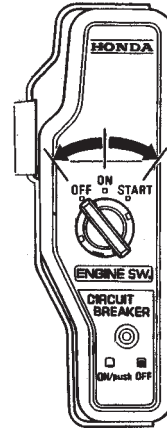

Figure 32. Engine Ignition Switch (OFF Position)
4. Place the **Engine ON/OFF switch** (Figure 32) in the "**OFF**" position and remove the key. Place the key in a safe place.